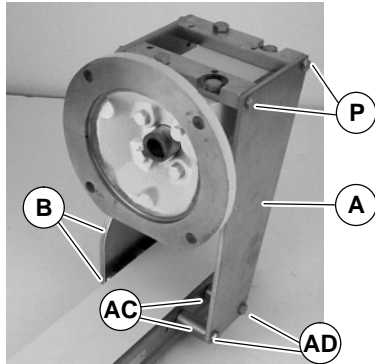

Figure 5
**NOTE: 4" (102mm) and wider mounting assembly shown. 2" (51mm) and 3" (76mm) wide mounting assemblies include two spacer tubes (AC of Figure 5) and two long M6 screws (AD).**
- 4b. For 2" (51mm) and 3" (76mm) wide conveyors, loosen (but do not remove) screws (P of Figure 5). Attach top mount assembly (A) to conveyor with screws (B), spacer tubes (AC) and screws (AD). Tighten screws (B) and (P) to 92 in-lb (10.4 Nm).